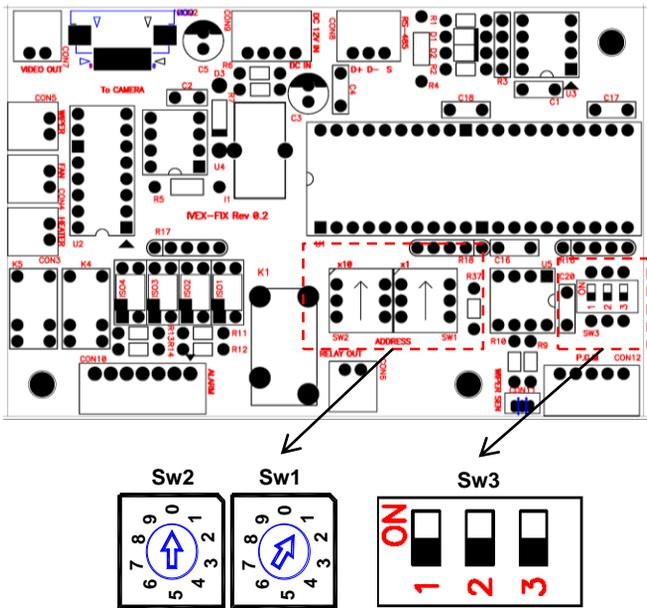

Figure5. Lottery and Dip Switches
2. See the figure5 for Setting of communication with the switch on the RX Board.